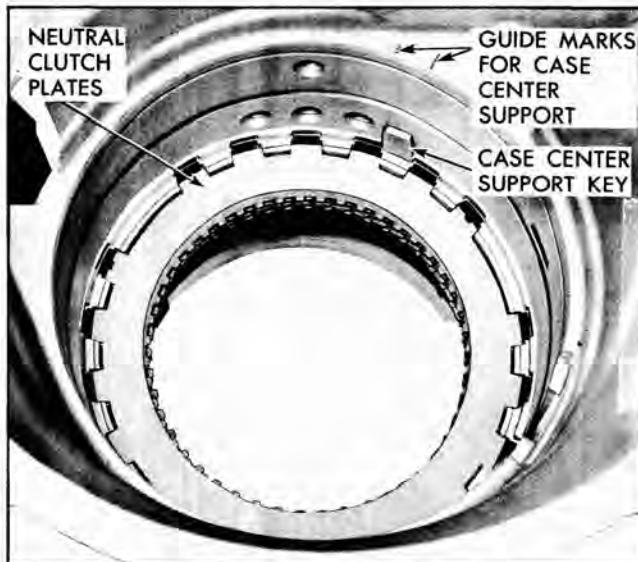

Fig. 114 Neutral Clutch Plates in Case
4. Install long case center support key with longer lip toward front of case. Hold in place with petroleum jelly (Fig. 114).
5. Mark the case to indicate sides of the key to assist in alignment for installation of case center support (Fig. 114).